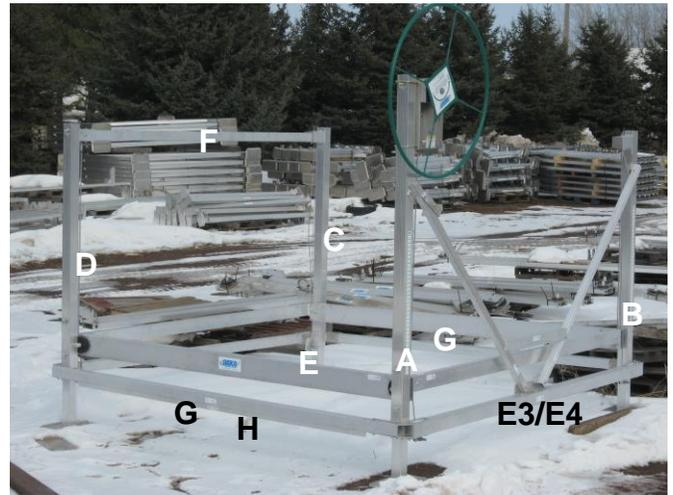
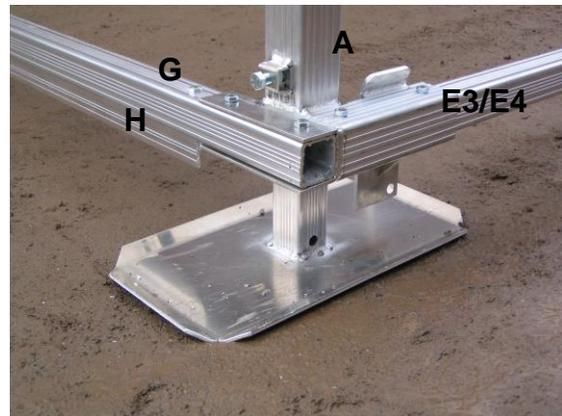

FIG. 18
FIG. 19
1. Locate one cross bottom support angle **H** and two cross bottom tubes **G** as shown in FIG. 18 and FIG. 19.